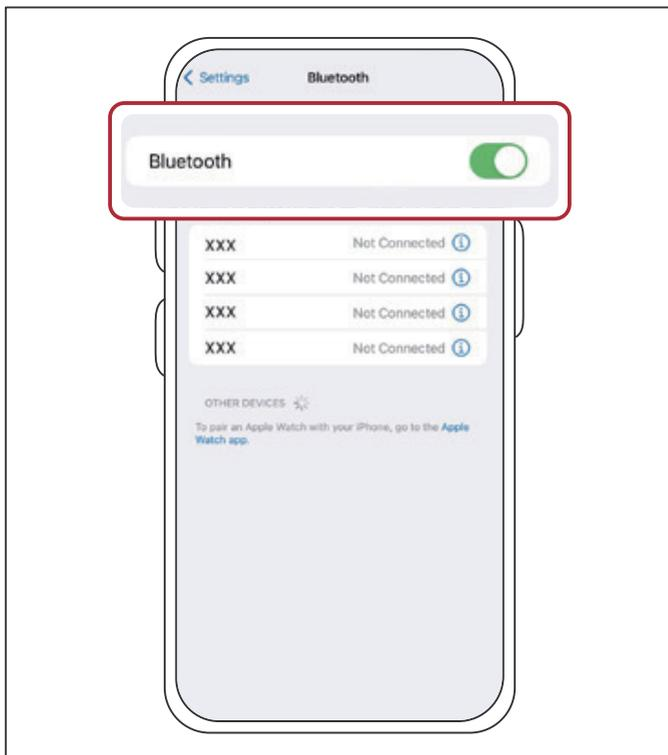

Fig.20
- 3 Turn on the Bluetooth® on your smart-phone (see Fig.20).